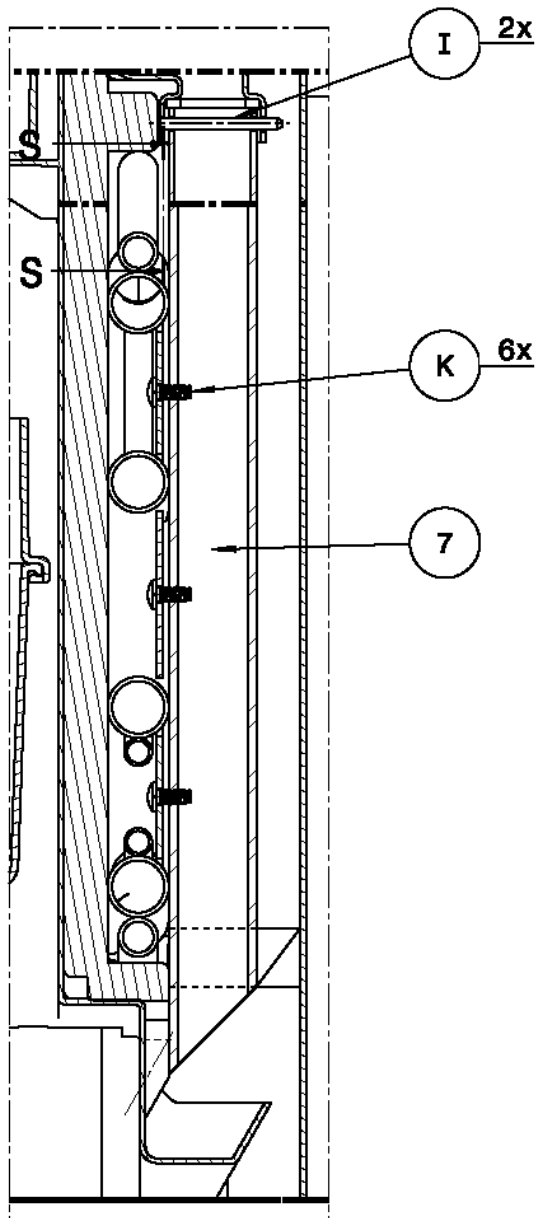
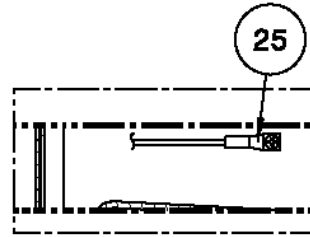

FIG. 4
FIG. 5
13. Remove air duct and the fan (26, Fig. 1) by removing 2 screws (H, Fig. 1 and 2) and 2 pins (I, Fig. 4).
14. Remove the thermistor by unscrewing 1 screw (25, Fig. 5) and remove the fin package (7, Fig. 4) by removing 6 screws (K, Fig. 4).
40. On the fin package (7, Fig. 4) a contact pattern of old thermo mastic could be seen. Apply a string of thermo mastic where the contact has been with the evaporator tubes.
41. Move up the fin package between the inner wall and the evaporator tubes. Move the package as close as possible to the wall to keep the thermo mastic in place. Attach the package with 6 screws (K, Fig. 4).
42. Replace the thermistor (25, Fig. 5).
43. Replace the air duct (26, Fig. 1) with 2 pins (I, Fig. 4) and 2 screws (H, Fig. 1 and 2) and the air distributor (5, Fig. 2) with 3 screws (E, Fig. 2). The wiring from the thermistor (8, Fig. 2) and the fan in the air duct shall be placed between the air duct and the back wall.
FROM FIG. 4